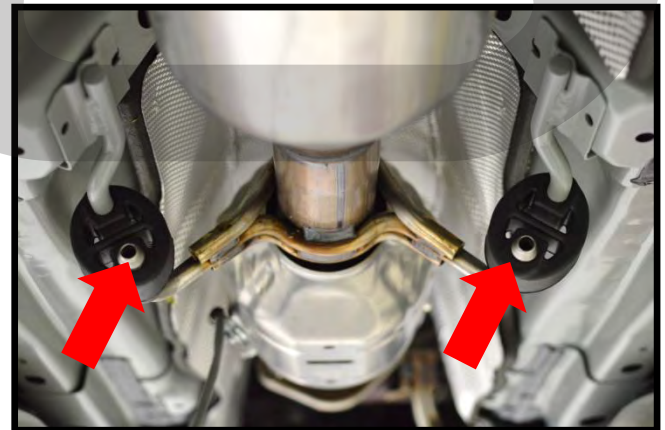

Figure 3d
- g) **Lubricate the two (2) rubber hangers with WD-40 and pull the exhaust free from the vehicle (Red arrows in Figure 3d).**